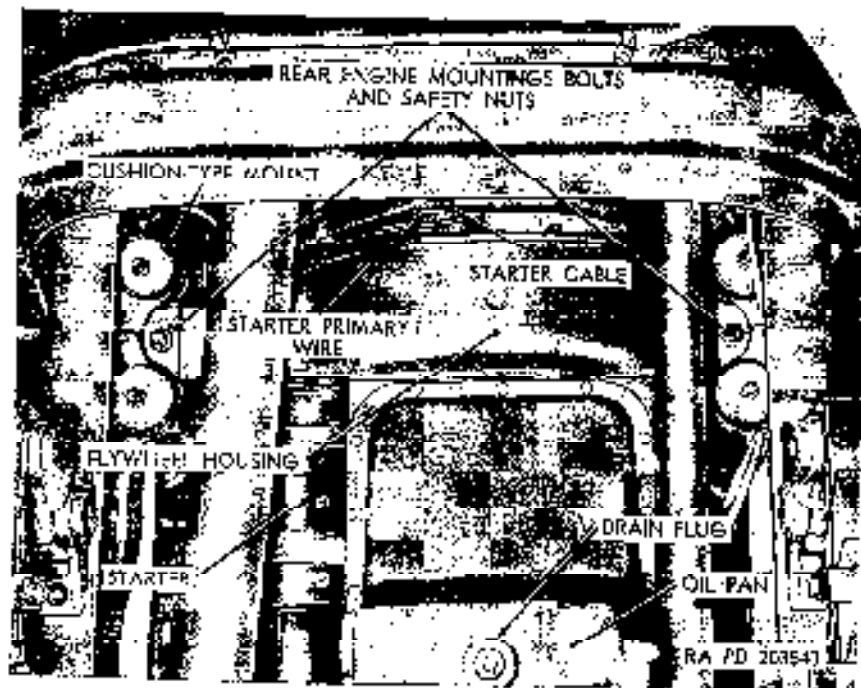

Figure 118. View of rear section of engine from under side of vehicle.
- (6) *Oil pan.* The oil pan (fig. 118) is a cast aluminum unit flanged to conform to the crankcase. An oil-tight joint between the oil pan and crankcase is obtained by use of a flange gasket. A magnetic-type drain plug (fig. 118) is located in the bottom of the oil pan.